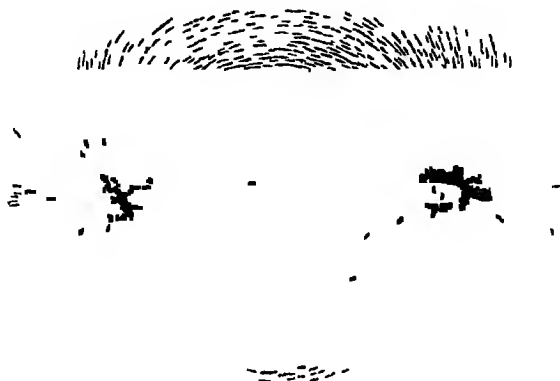

FIG 149
magnet (fig 149), (2) a horse shoe magnet (fig 150), and (3) two magnets with poles of opposite names near each other (fig 151) are illustrated